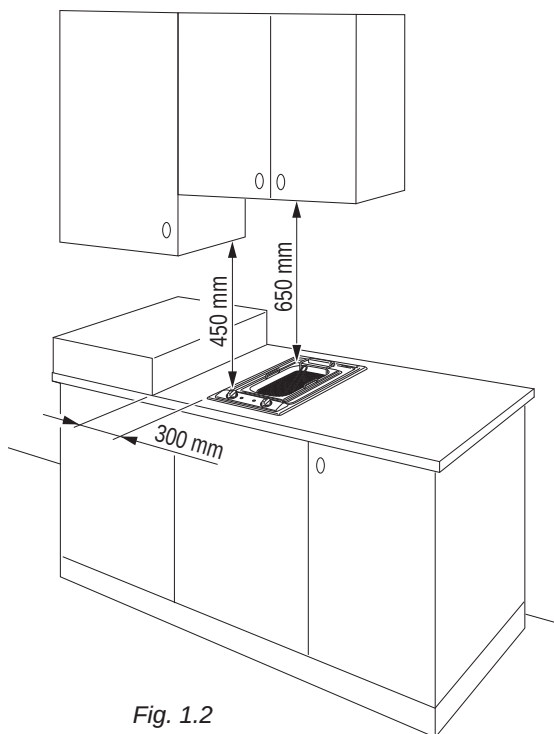

Fig. 1.2
- any wall to the side and above the cooktop must be at least 300 mm away (fig. 1.2);
- there must be a distance of at least 650 mm between the hob and any wall cupboard or extractor hood positioned immediately above (see fig. 1.2);